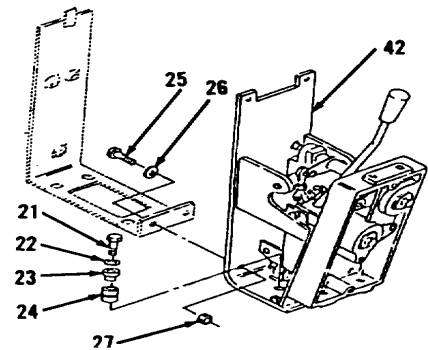
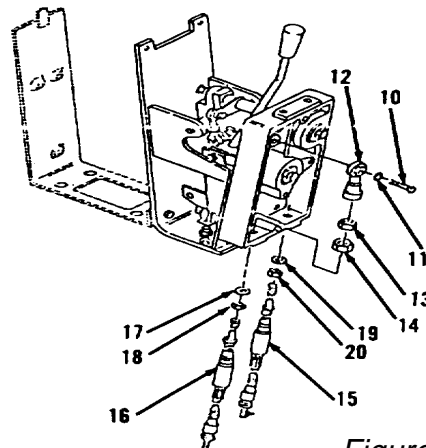
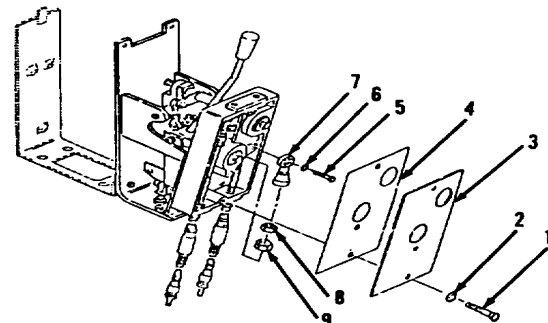

Figure 5-3.
Figure 5-2.
Figure 5-1.
23. Install two nuts (27), washers (26) and bolts (25, Figure 5-3).
24. Install two mountings (24), spacers, (23), washers (22) and bolts (21) through support (42).
25. Position nut (20), washer (19), nut (18) and washer (17, Figure 5-2).
28. Install nuts (14 and 13) and rod end (12) on cable (16). Do not tighten nut (13).
29. Install washer (11) and bolt (10).
30. Tighten nut (13).
31. Install nuts (9 and 8) and rod end (7, Figure 5-1). Do not tighten nut (8).
32. Install washer (6) and bolt (5).
33. Tighten nut (8).
34. Install new gasket (4), cover (3), three washers (2) and bolts (1).